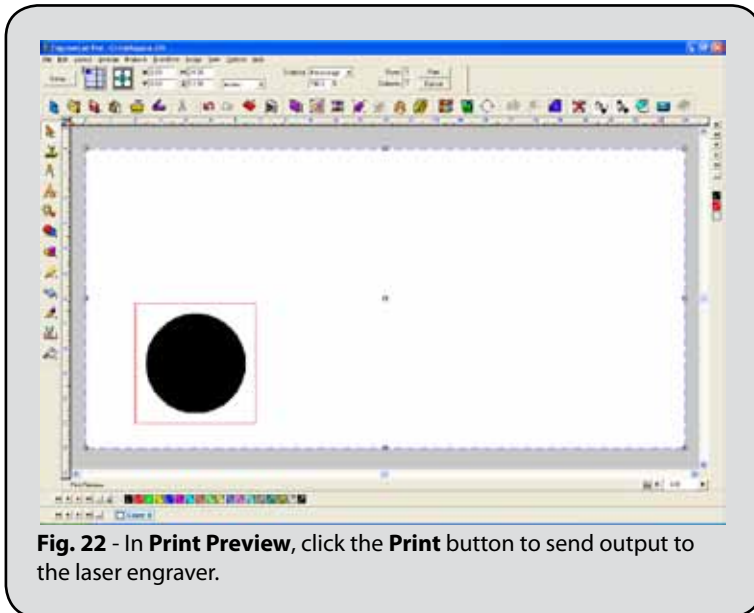

Fig. 22 - In **Print Preview**, click the **Print** button to send output to the laser engraver.
3. In **Print Preview**, click **Print** to begin engraving (Fig. 22).